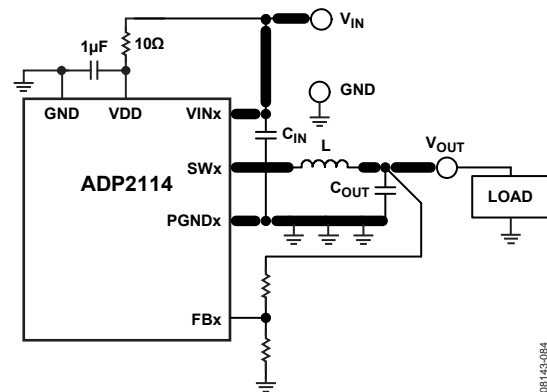

Figure 84. High Current Traces in the PCB Circuit
- Ensure that the high current loop traces are as short and as wide as possible. Make the high current path from CIN through L, COUT, and the power ground plane back to CIN as short as possible. To accomplish this, ensure that the input and output capacitors share a common power ground plane. In addition, make the high current path from the PGNDx pin through L and COUT back to the power ground plane as short as possible. To do this, ensure that the PGNDx pin of the ADP2114 is tied to the PGND plane as close as possible to the input and output capacitors (see Figure 84).